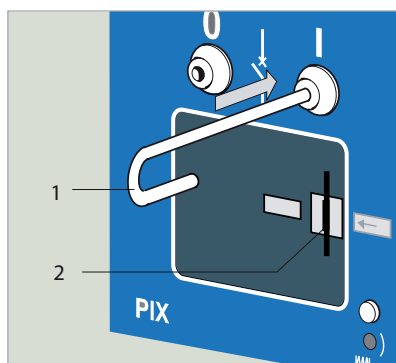

Figure 40
Insert the operating rod into the right-hand guide of the front door and press it right to the back (Figure 40, 1). The circuit breaker is switched ON; the position indicator indicates **ON** (2).